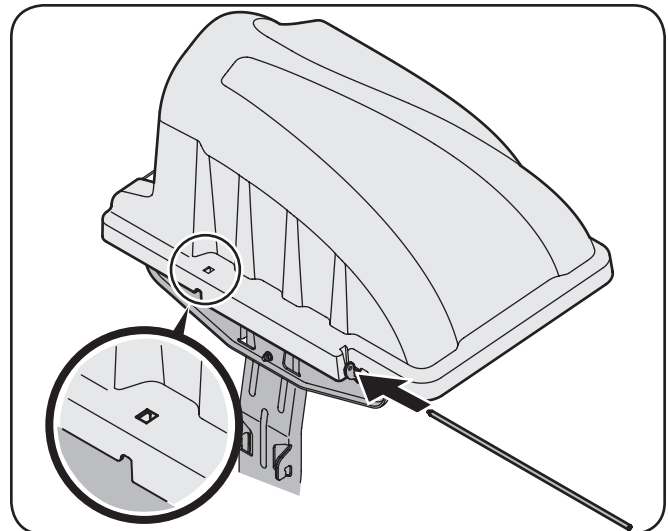
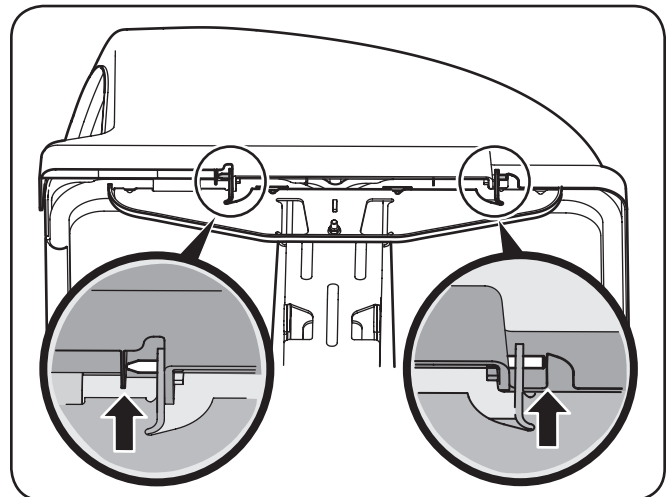

Figure 4-10
Figure 4-11
6. Slide the hinge pin into the hole located on the mounting tab, as in Figure 4-10. Use the cut-out window (See inset in Figure 4-10) to line up the hinge pin on the other side and push pin all the way in until it reaches the end-stop. At this point the pin clips into place and is secured by a tab in the bagger cover. See Figure 4-11.